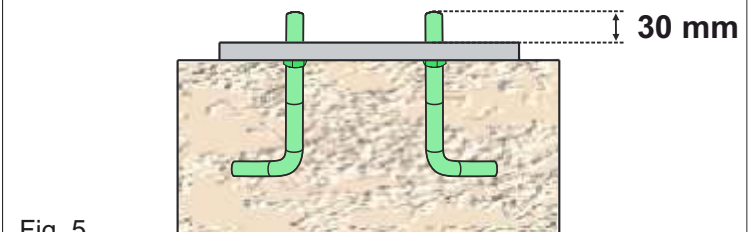

Fig. 5
**2.3.** Make sure that the plate is perfectly leveled and that the anchor bolts come out of the plate for **30 mm**, as shown in Fig. 5